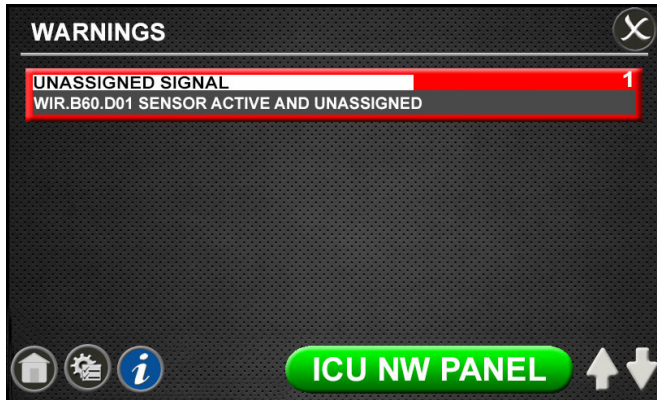

Figure 22: Warnings Tab
Type the default password (121212), and touch the Enter button. You will be prompted to change the password if not done so previously (Figure 22).
1. Touch the [A] button that is located to the left of the configuration screen (Figure 22).